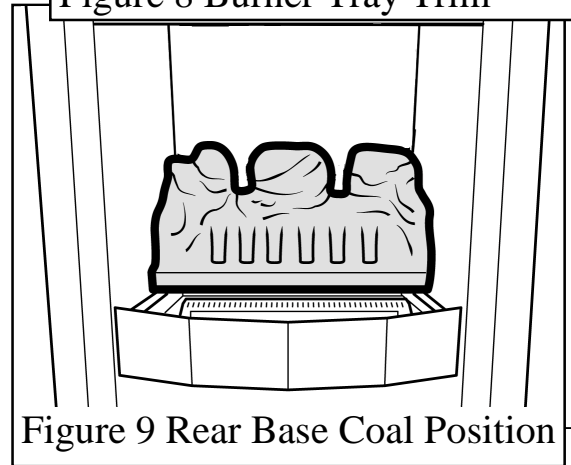

Figure 9 Rear Base Coal Position
2. Place the rear base coal in the firebox. It should rest on the ledges at the sides and back of the firebox and its rear face should touch the firebox rear wall. See figure 9.